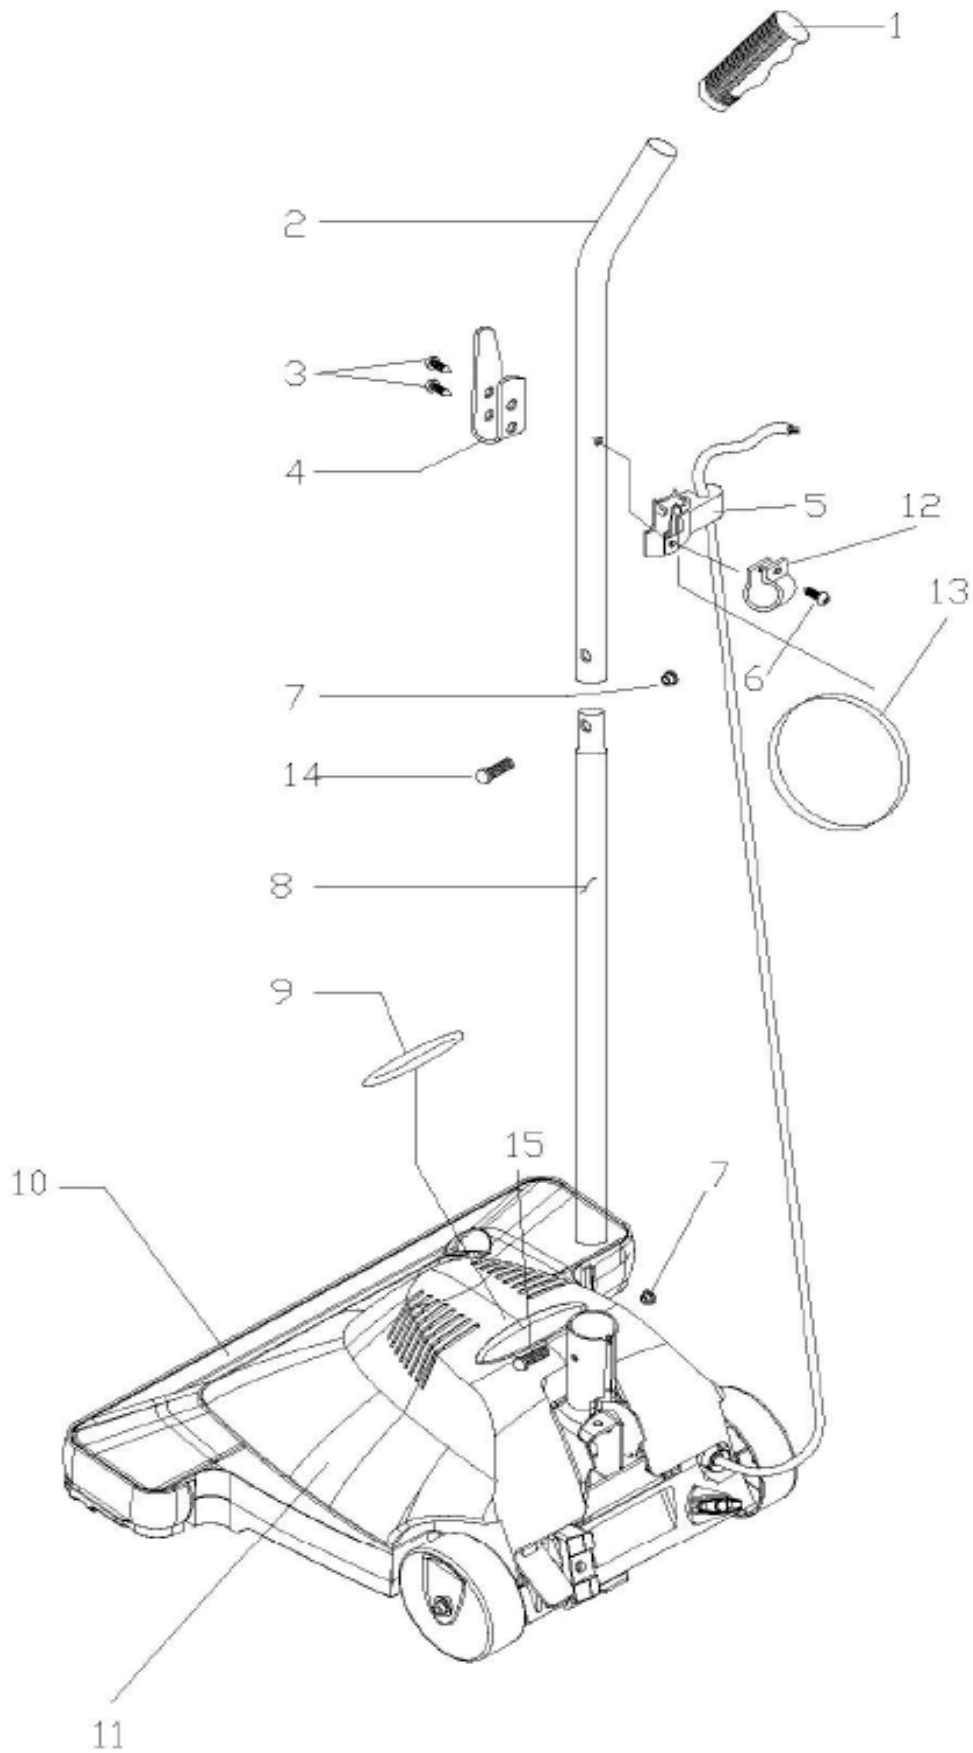

FIG.2
- 8.5.-Replace the motor (51)
### **9.-TO REPLACE HEIGHT ADJUSTMENT LEVER (15), FIG.2 AND FIG.4**
- 9.3.-Remove the spring(10) and screw (44), to remove the retain for lever(17).
### **10.-TO FOOT RELEASE PEDAL (39) FIG.2 AND FIG.4**
### **11.-TO REPLACE YOKE ASSEMBLY (54), FIG.2 AND FIG.4**
- 11.3.-Remove the yoke bolt (31), along with the security locks (20)
### **12.-TO REPLACE THE LINE CORD ASSEMBLY (25), FIG.2 AND FIG.4**
### **13.-TO REPLACE THE ON - OFF SWITCH (48), FIG.2 AND FIG.4.**